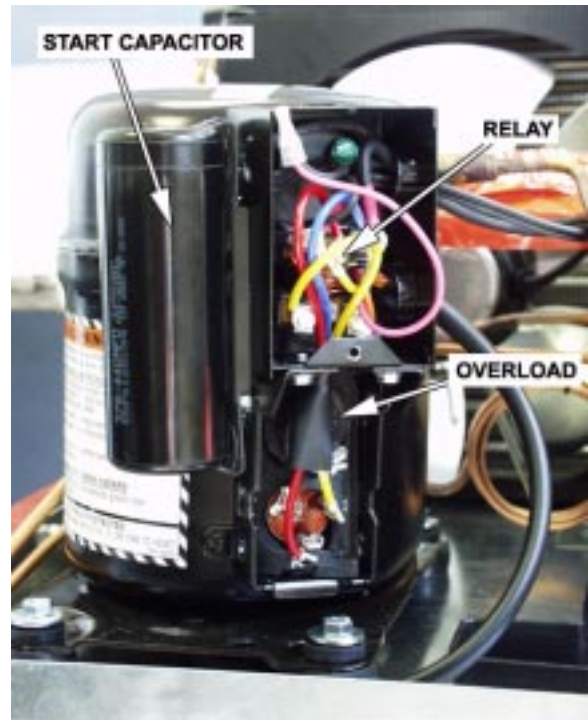

Figure 17
2. Remove covers from the compressor components as required for access (figure 17).